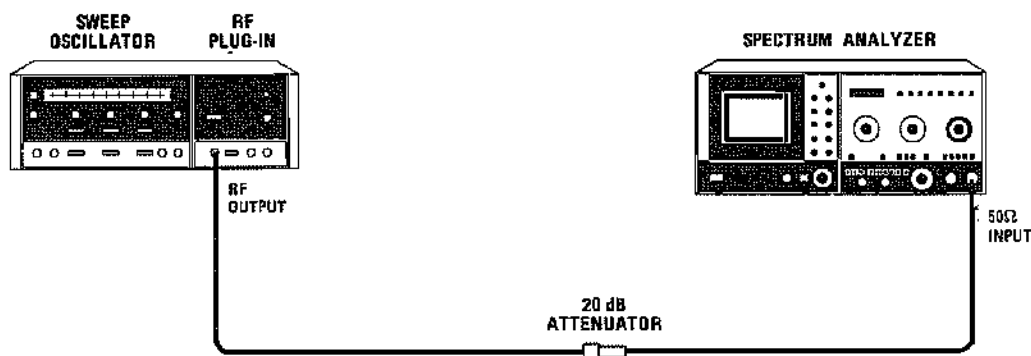

Figure 4-5. Residual FM Test Setup
- a. Connect equipment as shown in Figure 4-5.